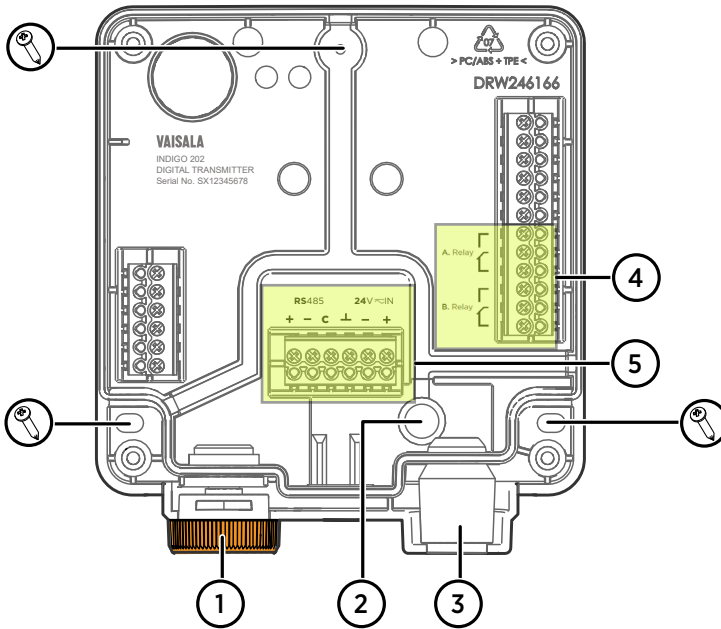

Figure 3 Indigo 202 transmitter base main parts and mounting screw positions
5. Place the transmitter base on the installation surface and mount it with 3 screws. See the screw positions in Figure 3 \(page 10\).